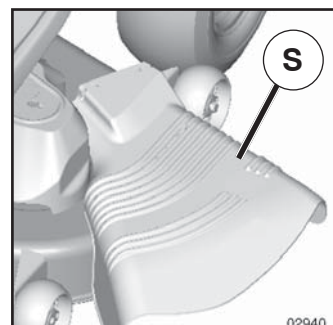

Fig. 11
**CAUTION: Do not operate the mower without either the entire grass catcher, on mowers so equipped, or the deflector chute (S) in place (See Fig. 11).**